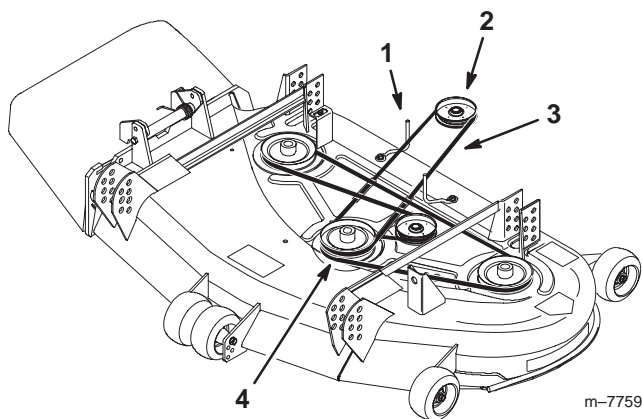

Figure 25
4. Remove the worn drive belt (Fig. 25).
5. Install the new drive belt onto the traction unit drive pulley and the top groove of the center spindle pulley (Fig. 25).